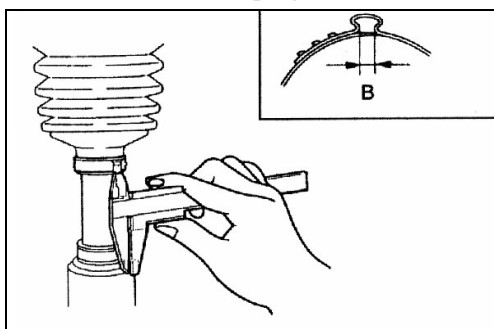

Fig.12-36
- (1) Secure the drive shaft in an upright position and clamp the part of the R.J. boot band to be crimped securely in the jaws of the special tool.
- (2) Crimp the R.J. boot band until the special tool touches the stopper.
- ⑧ Check that the crimping amount (B) of the R.J. boot band is at the standard value. (see Fig.12-36).